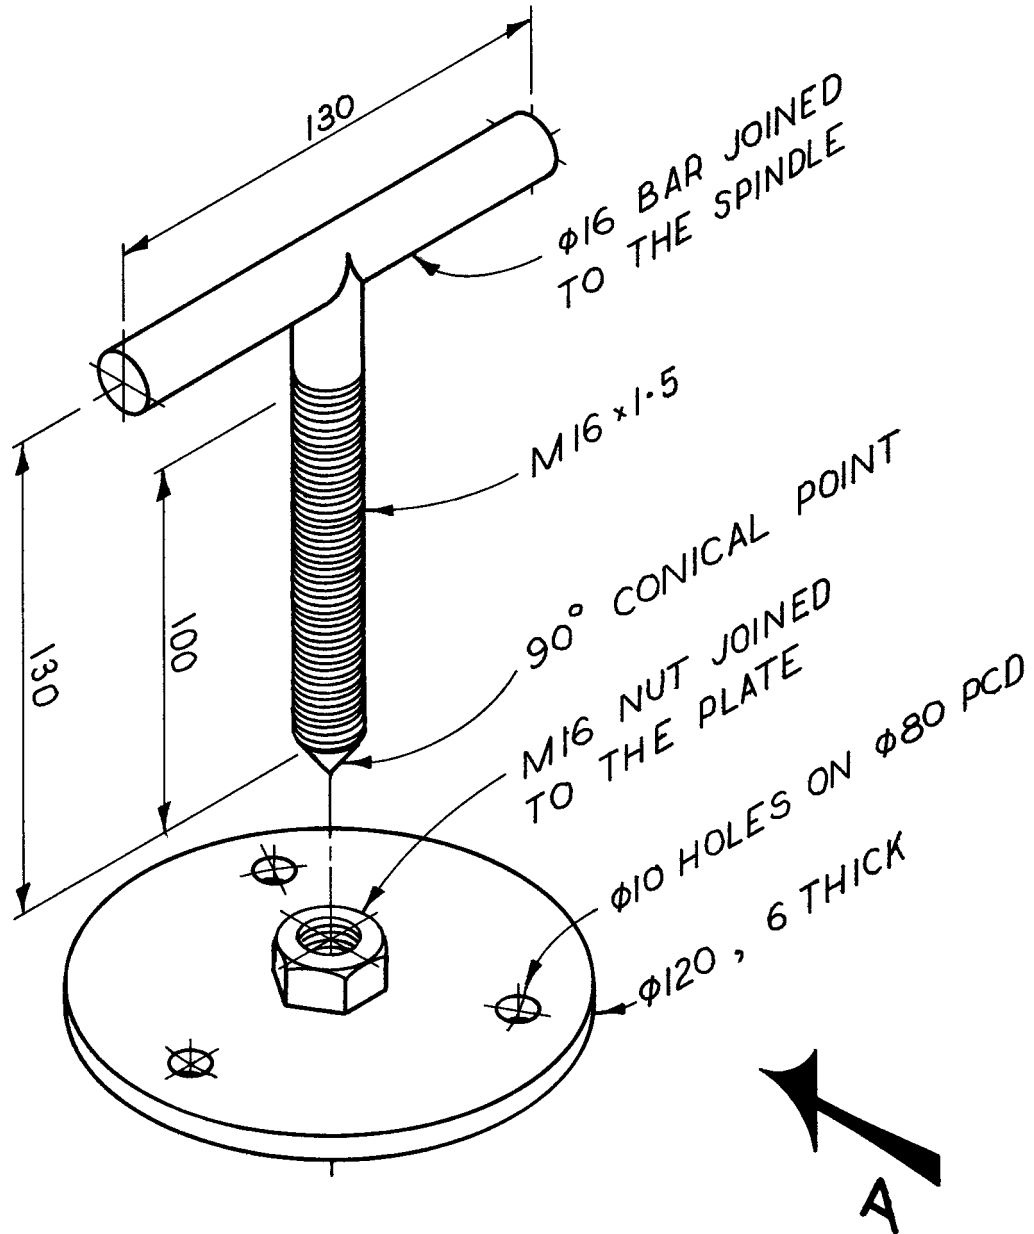

FIG. 1
- (a) An exploded view of a service tool used to remove a flywheel from a lawnmower to service the magneto is given below in Figure 1.